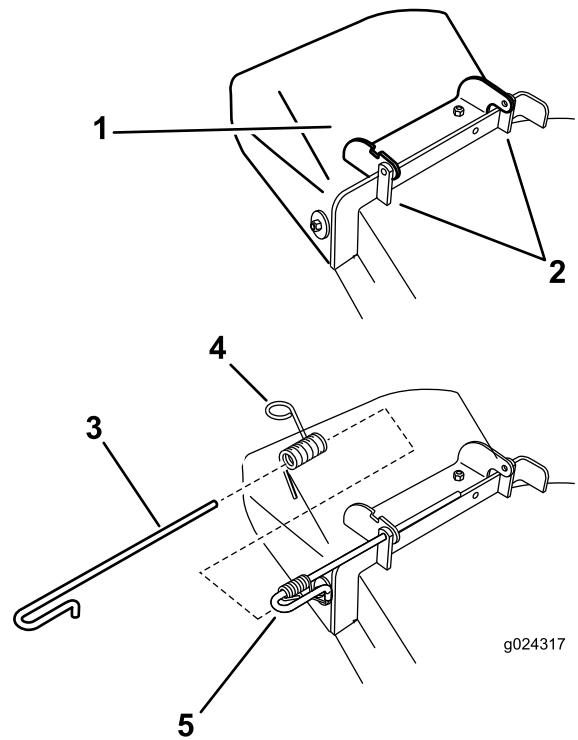

Figure 68
1. Remove the cotter pin from the end of the rod (Figure 68).
2. Disengage the spring from the notch in the deflector bracket and slide the rod out of the welded deck brackets, spring, and discharge deflector (Figure 68).
3. Position the new discharge deflector with the bracket ends between the welded brackets on the deck (Figure 68).
7. Install the cotter pin into the end of the rod (Figure 68).